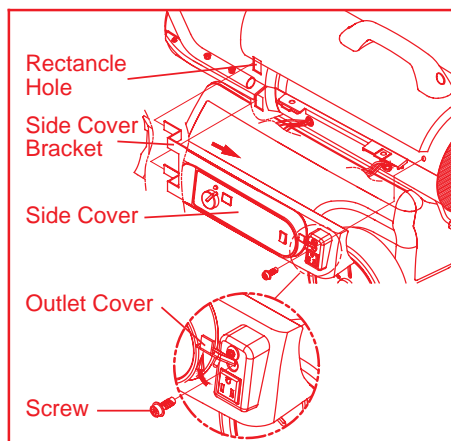

Figure 22. Removing side cover
2. Uncover Outlet Cover and Remove Screw that secure Side Cover as shown in Figure 22.
3. Push out for arrow direction and extract side cover's bracket from rectangle hole and separate side cover(see Figure 22).